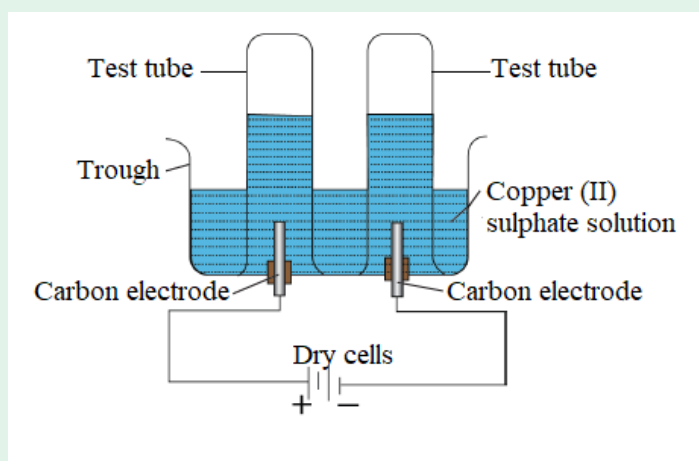

Figure 7.2.5.(a): Apparatus showing electrolysis of copper (II) sulphate using graphite electrodes.
1. Half-fill a beaker with copper (II) sulphate solution
2. Set up the apparatus as shown in Figure 7.2.5.(a).